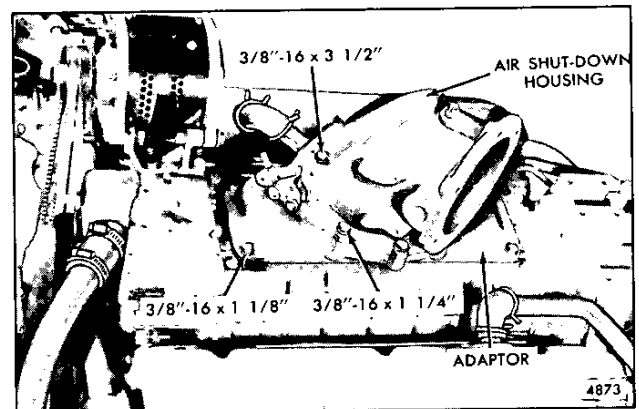

Fig. 5 - Location of Air Shutdown Housing and Adaptor Mounting Bolts (8V-53 Engines)
2. Refer to Fig. 5 and install the air shutdown housing adaptor on the screen and gasket assembly. Install the six bolts and lock washers and tighten them to 16-20 lb-ft (22-27 N·m) torque.